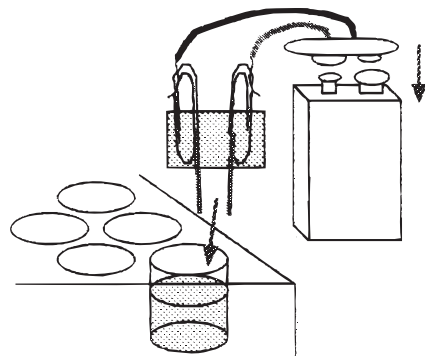

Figure 4.
1. Use a pipet to fill the corner well of a 24-well plate approximately 3/4 full with 0.5 M copper(II) sulfate solution.
3. Place both graphite electrodes in the 0.5 M copper(II) sulfate solution for several seconds (see Figure 4). *Note:* Do not touch the two graphite electrodes together.